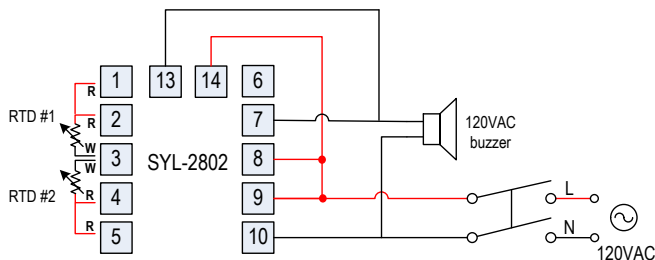
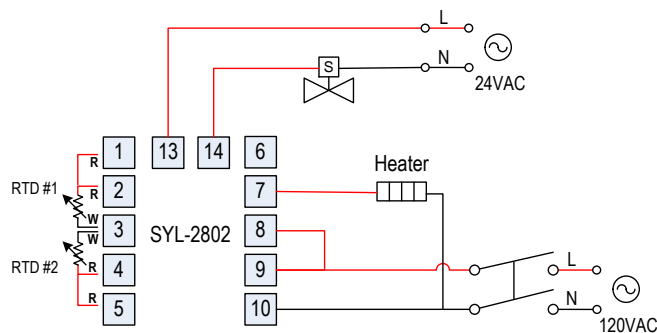

Figure 5. Wire a 120V buzzer to alarm relays.
Figure 6. Drive a solenoid valve and a small heater using alarm relays.
2.4.2 The output relays, AL1 and AL2, can be considered as “dry” single-pole switches. They do not provide power to loads. Please see Figure 5 for how they are wired when providing a 120V output (or when output voltage is the same as the power source for the temperature meter). If the load requires a different voltage than what is supplied to the temperature meter, then another power source is needed. See Figure 6 for examples.